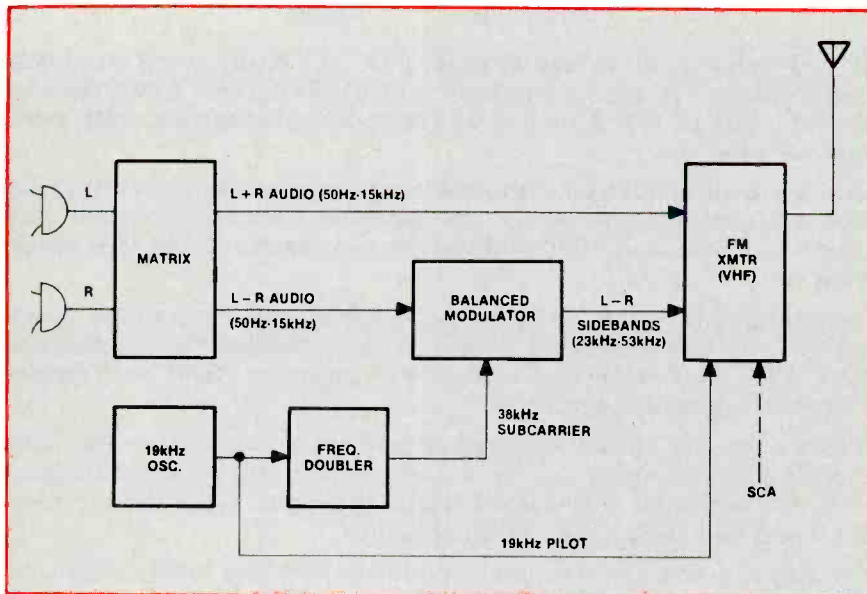
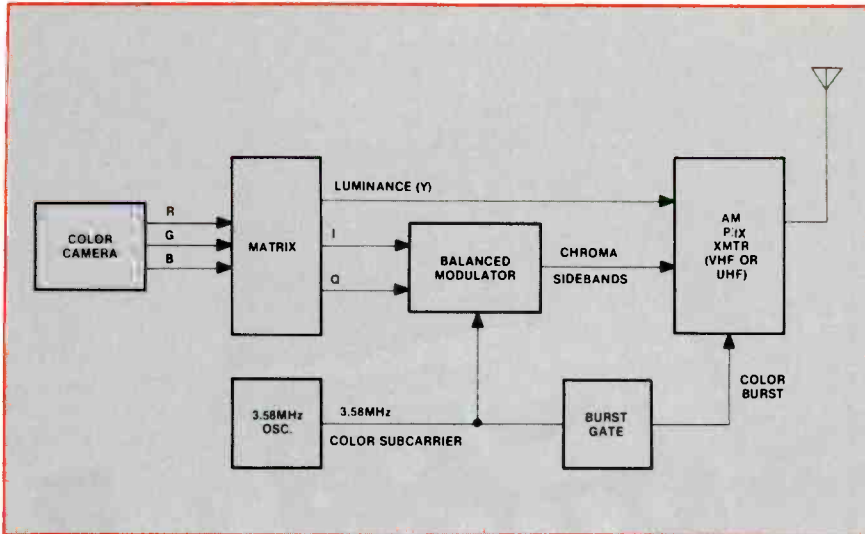

Figure 2. Simplified block diagram of FM stereo transmitter.
Figure 4. Simplified block diagram of color TV transmitter.
Next, let's get down to brass tacks and see how modulation is achieved, and discuss the role the subcarrier plays in this scheme. (See Figure 2.)
Take another look at Figure 2. Note the 19kHz pilot signal that also feeds the FM transmitter; this is a sample of the unmodulated (continuous wave) signal generated by the 19kHz oscillator. As we'll see later, this pilot signal plays a vital role
Until now, while you were reading the article, did you by any chance get a sense of *deja vu* even if you had never studied FM MPX stereo before? Did you perhaps get the feeling that all this jazz about subcarrier modulation is already familiar in connection with color TV? If so, you're right. Before we leave the subject of composite stereo signal generation and transmission, let's make a quick comparison between the block diagram of an FM stereo transmitter (Figure 2) and that of a color TV picture transmitter (Figure 4).
Note the striking similarity between the two systems. In the color TV transmitter diagram, the camera feeds three video signals (red, green and blue) to the matrix; this is analogous to the L and R audio signals from the two microphones in Figure 2. In Figure 4, the matrix mixes the three color signals in various proportions and outputs three different video signals. The luminance (Y) signal, which contains brightness (B&W) information, goes directly to the RF transmitter where it amplitude-modulates the picture carrier; this is like the L+R audio signal that directly modulates the FM transmitter in Figure 2. The I and Q color video signals produced by the matrix are applied to the balanced modulator, where they amplitude-modulate a 3.58MHz subcarrier, producing chroma sidebands on either side of the suppressed 3.58MHz subcarrier frequency (this is a *two-phase* AM DSBSC modulation system because there are two modulating signals, I and Q). These AM sidebands then modulate the RF